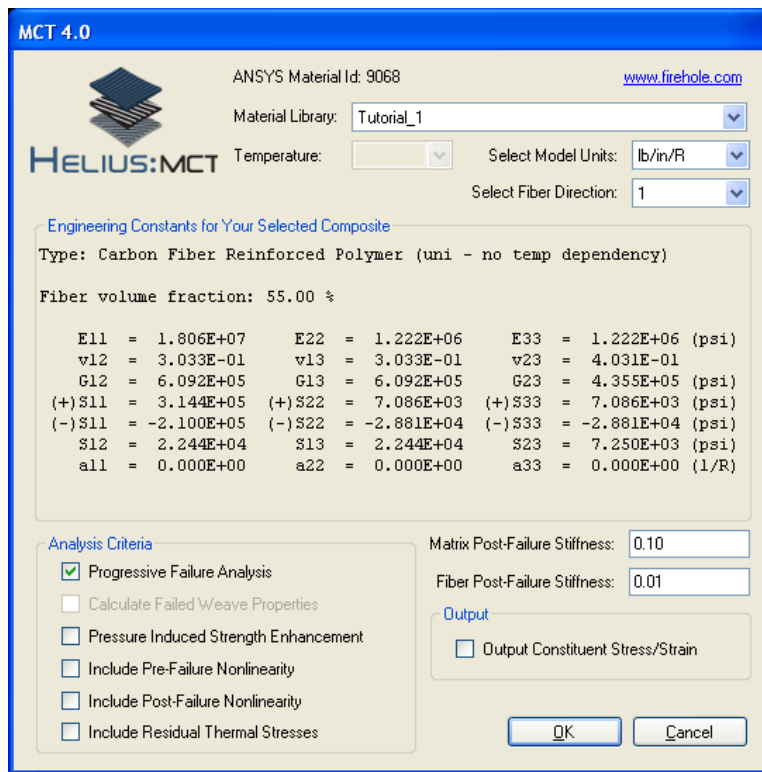

Figure 6. Helius:MCT GUI.
6. Set the Matrix Post-Failure Stiffness value to **0.10** and the Fiber Post-Failure Stiffness value to **0.01**. The dialog box should appear as shown in Figure 6.